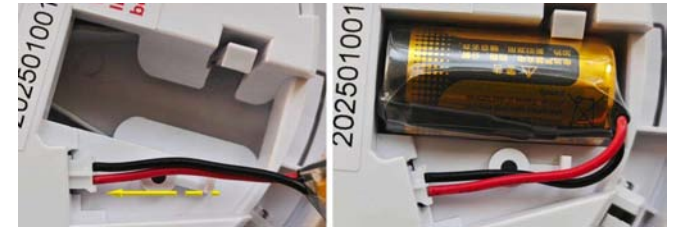
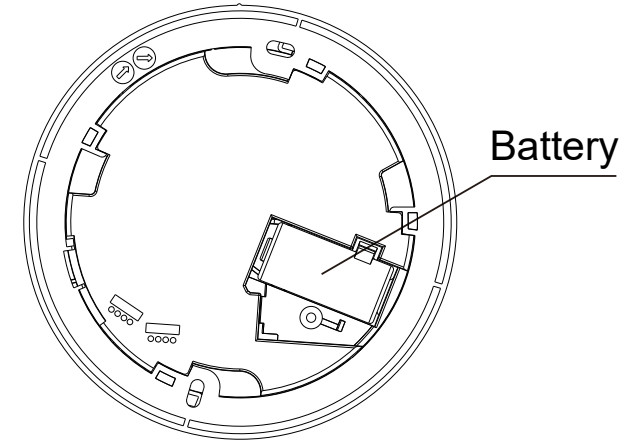

Fig. 5 – Insert battery connector
Fig. 6 – Battery compartment
1. Insert the connector of battery into the socket, see Fig.5. And fit the battery into the battery compartment on the underside of the smoke alarm, see Fig. 6.